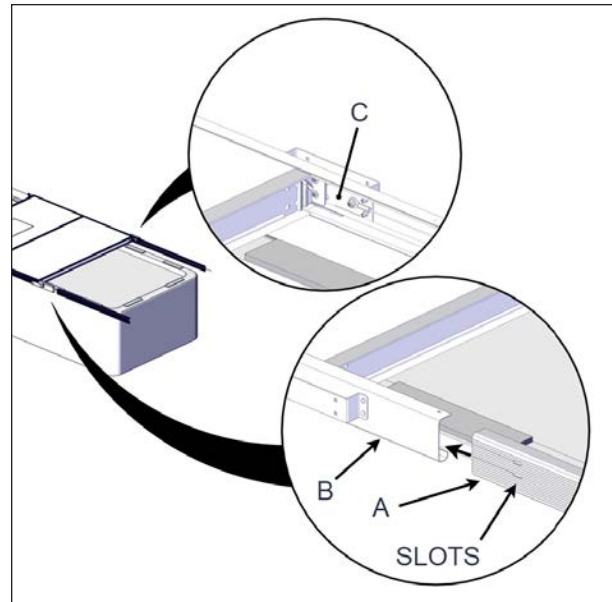

FIGURE 37: SIDE EXTENSION C-CHANNEL INSTALLATION
14. Insert the side extension C-channel inside the support bracket, see Figure 37.
There are two slots at one end of the C-channels. The slots must go toward the cover, see Figure 37.